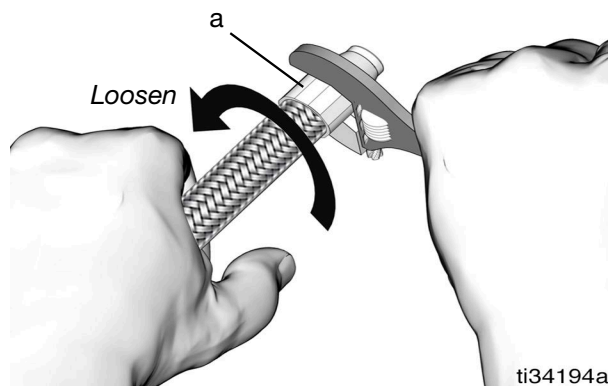

FIG. 60
5. Use a wrench to finish tightening socket (a) until it bottoms out. Then back off 1/4 turn to 1/2 turn (FIG. 60).